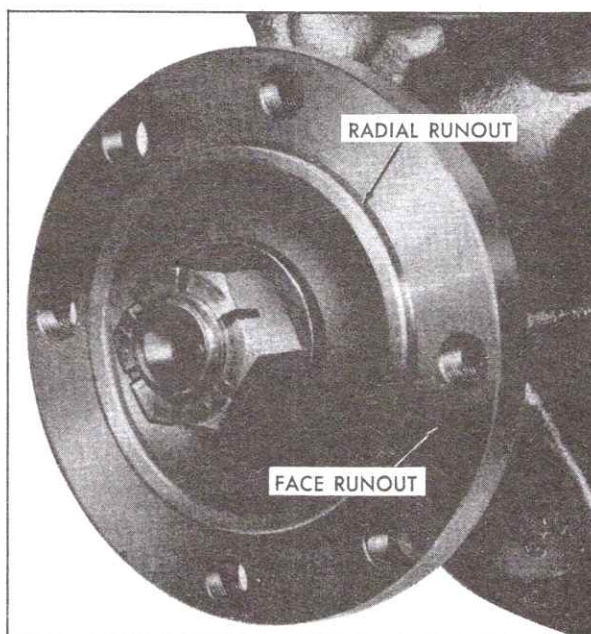

Fig. 4-44 Checking Pinion Flange Run-Out
4. Clamp Dial Indicator Set, J-8001, on noise bumper arm and position dial indicator stem to face of differential carrier between mounting bolt holes and pilot diameter, Fig. 4-44.
6. Attach Dial Indicator Extension, J-7057, to dial indicator. Position extension against side of pilot diameter of the differential carrier pinion flange, Fig. 4-44.